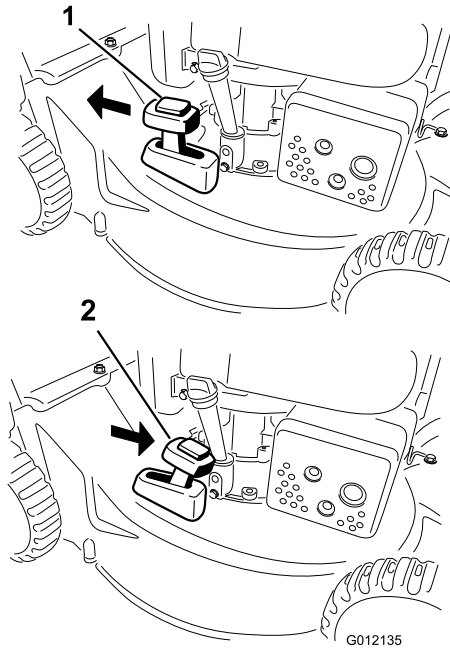

Figure 18
To recycle the clippings, move the bag-on-demand lever to the **recycling** mode (Figure 18).
2. Install the grass bag; refer to Removing the Grass Bag \(page 11\) and move the bag-on-demand lever to the **bagging** mode (model 20836 only) as shown in Figure 18.
**Note:** If the grass bag is on the machine, remove it before rear-discharging the clippings; refer to Removing the Grass Bag \(page 11\). The bag-on-demand lever should be in the **bagging** mode (model 20836 only) as shown in Figure 18.